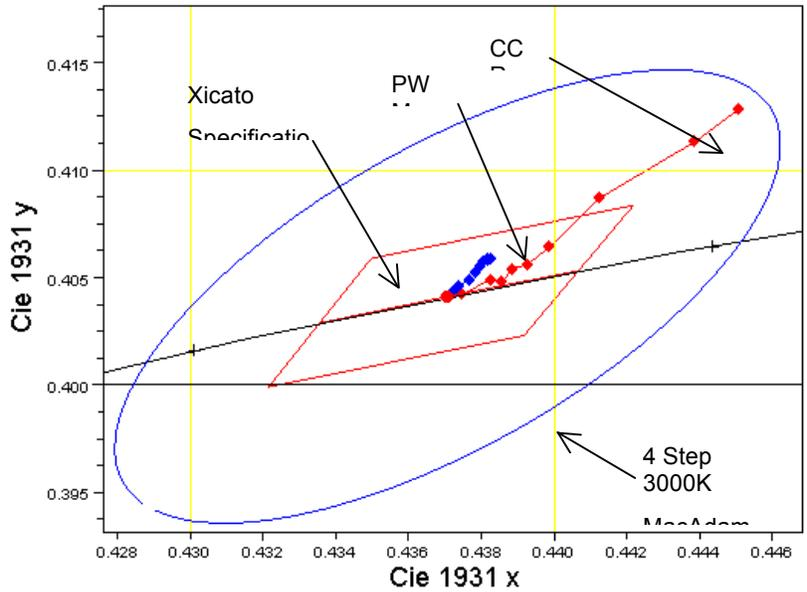

Figure 6: Expected Color Shift with CCR and PWM Dimming
- Color shift: Color shift depends on dimming architecture as represented in Figure 6 below. With PWM dimming the current is kept constant so the color shift is primarily caused by the change in module temperature. With CCR dimming, in addition to temperature changes, the drive current fluctuations alter the output from the LEDs and contribute more significantly to color shift. The data shown is for an XSM 1300lm module but is representative for most 3000K XSM modules.